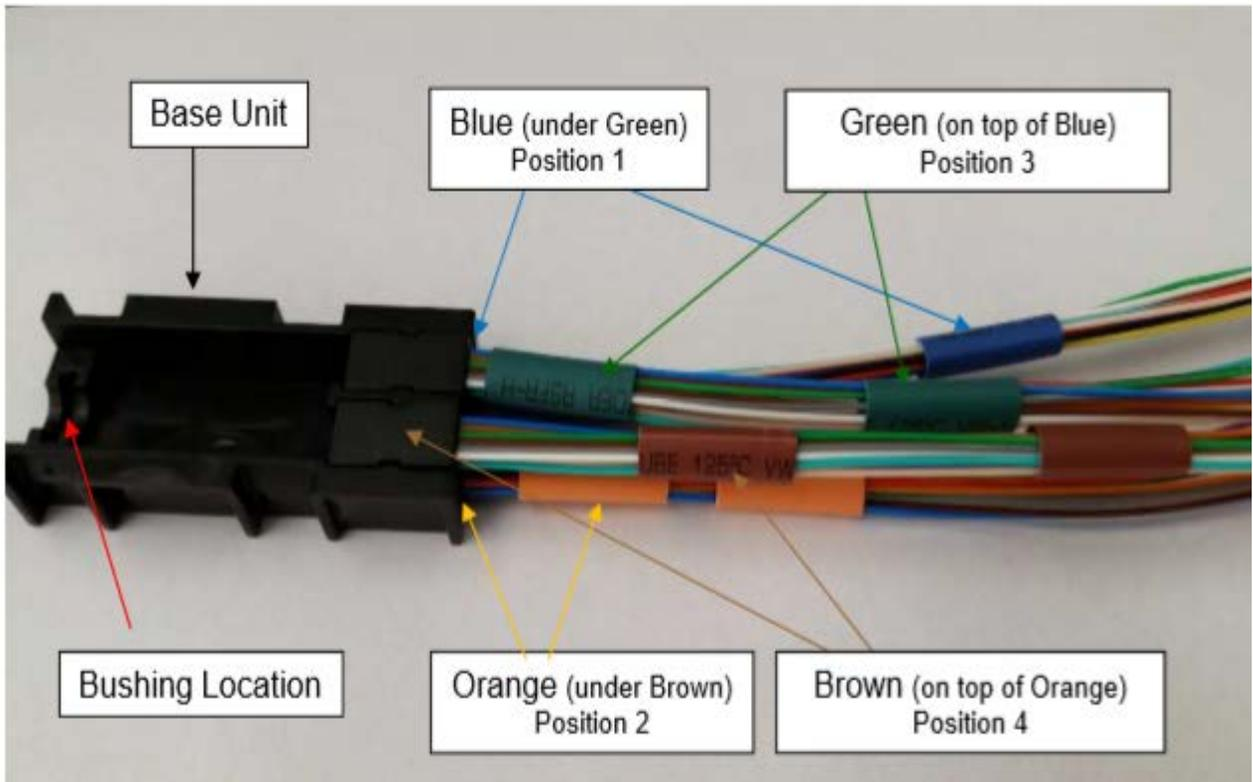

Figure 11
6.8 Install the Orange subunit into position 2 of the base unit. Looking from the bushing location, the Blue assembly goes in the bottom left cavity and Orange assembly goes into the bottom right cavity. (see **Figure 11**)